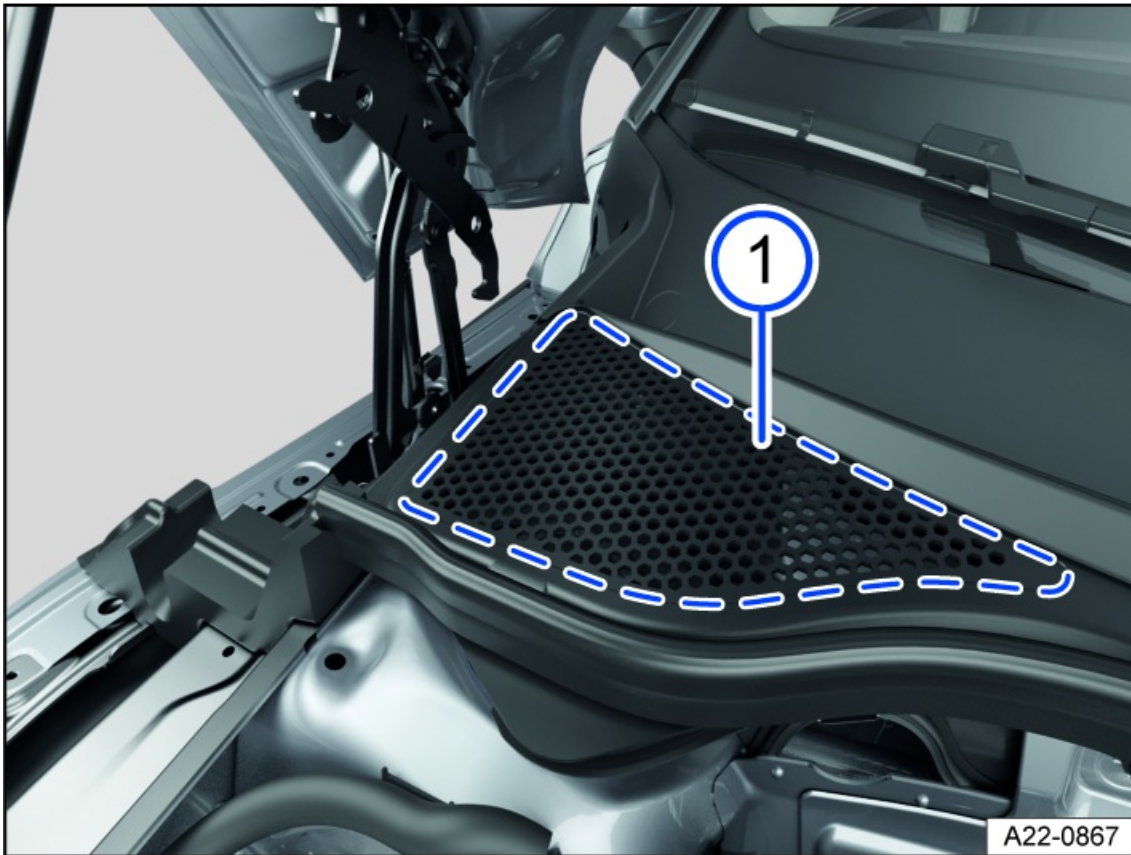

Fig. 194 Between the hood space and windshield: Plenum chamber (general example).
- Have the area under the perforated cover regularly cleaned by an authorized Volkswagen dealer or authorized Volkswagen Service Facility qualified in this respect *fig. 194*. Volkswagen recommends contacting an authorized Volkswagen dealer or authorized Volkswagen Service Facility.
- Remove leaves or other loose objects on the perforated cover with a vacuum or by hand *fig. 194*.